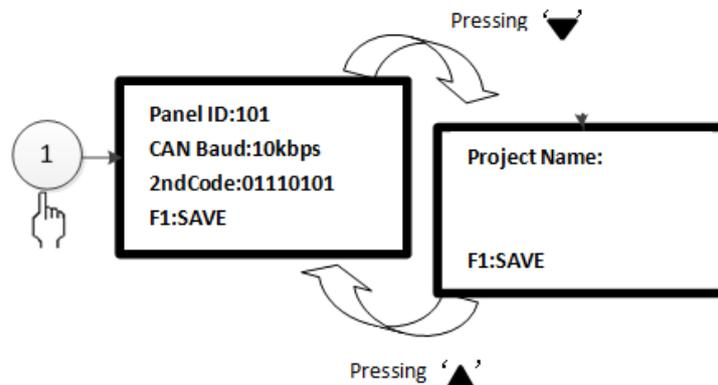

Fig. 3-27
① Slave Network Setup
Enter the screen as shown in Fig. 3-27 by pressing number 1 or moving cursor to select ①. Move the cursor by pressing UP and Down key. Make changes by pressing Left and Right key or entering numbers directly. After modification, press “F1”to save. Pressing ESC returns to the previous menu.